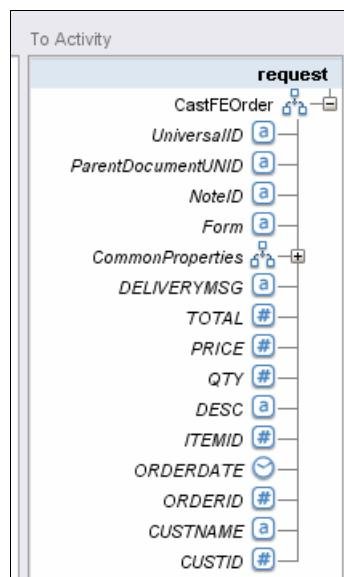

Figure 12-69 Target field from Domino's database form
5. You will now start an extensive mapping. The target fields are highlighted on the bottom of the right panel (To Activity), shown in Figure 12-69.
Hint: Collapse the CommonProperties node to simplify the mapping view. See Figure 12-69.